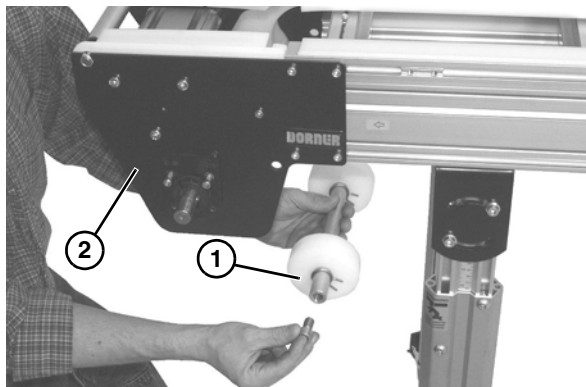

Figure 31
3. Lower roller assembly (**Figure 31, item 1**) from drive tail assembly (**Figure 31, item 2**).